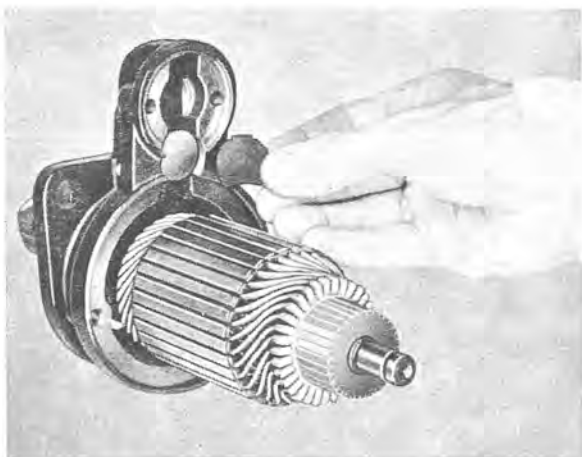

Fig. 3-36. Removing sealing washer
9. Remove the rubber washer and metal washer, see Fig. 3-36.